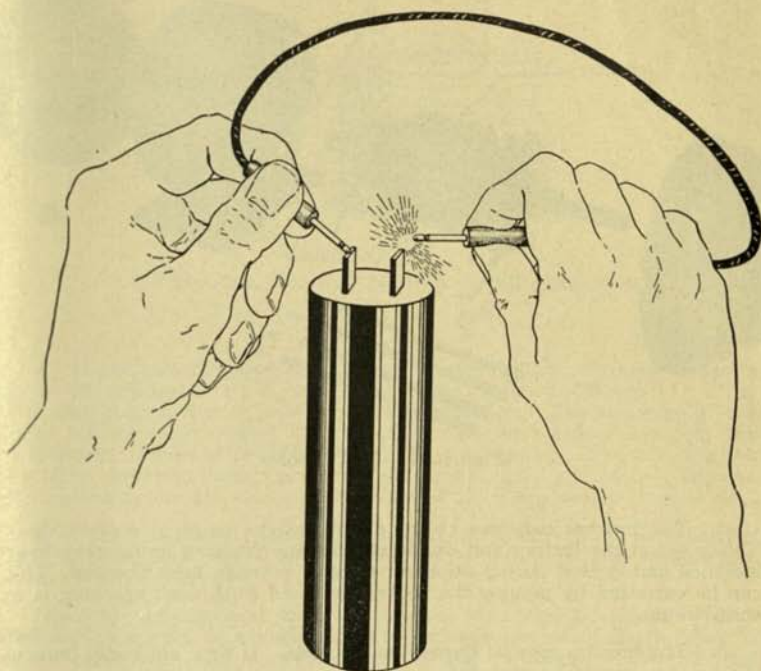

Figure 10. Discharging a capacitor
4. Disconnect the test light leads and hold one end of a wire against one terminal of the now charged capacitor; move the other end of the wire toward the other terminal of the capacitor. When the end of the wire almost touches the other terminal of the capacitor, it should discharge with an arc (Figure 10). If there is no arc, it indicates the capacitor does not take a charge and is therefore defective. It is assumed that the capacitor will be discharged immediately; otherwise, the charge will leak off and no spark will result. This might lead one to believe erroneously that the capacitor was defective.